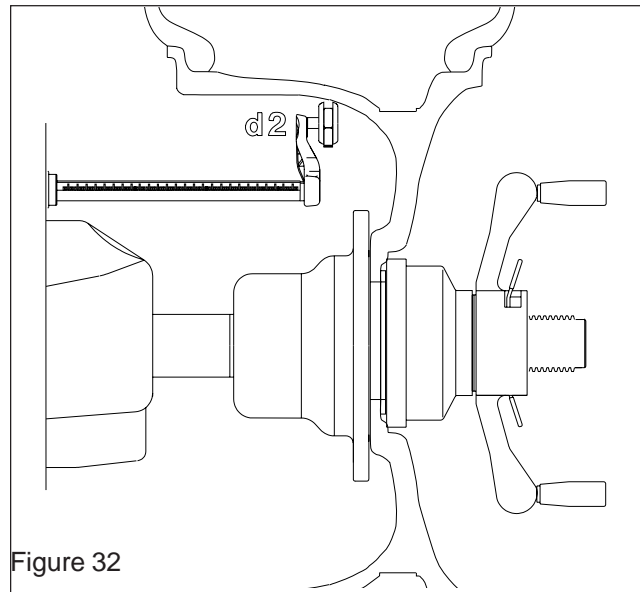

Figure 32
3. The machine displays "d - 2". Move the parameter gauge arm to the right weight position. See Figure 32. The display will read "d - 2" on its center window with the distance displayed in its left window and new diameter in the right window. The high tone will sound when dimensions are entered. Return the gauge arm to the rest position, a low pitch tone will indicate when it is OK to proceed.